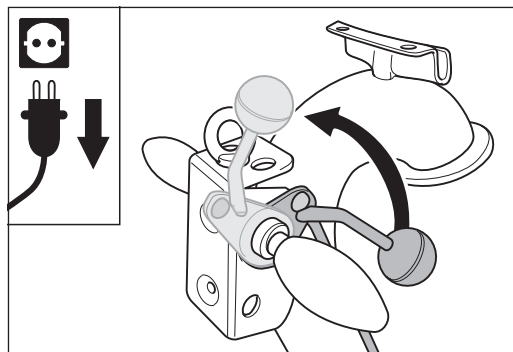

Fig. 59 Lift the sanding drum off the floor by turning the lowering lever at the handle upwards.
- 4 Lift the sanding drum off the floor by turning the lowering lever at the handle upwards (Fig. 59).